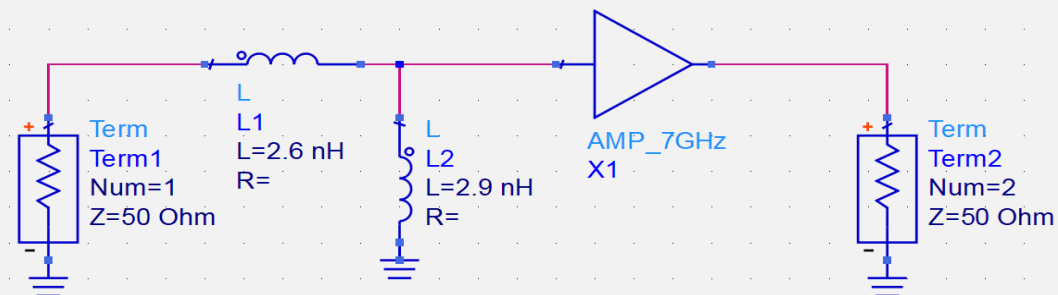

Figure 25. Amplifier schematic with matching network
1. Go back to the **SP_amp** schematic. Add the series and shunt inductors to this schematic, as shown in Figure 25. Use the rounded values that you calculated.